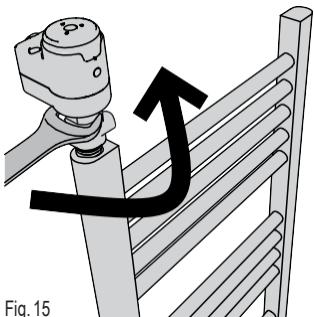

Fig. 15
4. Using a 27 mm spanner unscrew the T-piece with screwed the MOBUS, rotating it anticlockwise until T-piece thread is completely off from towel rail  $\frac{1}{2}$ "GAS female thread (Fig. 15).